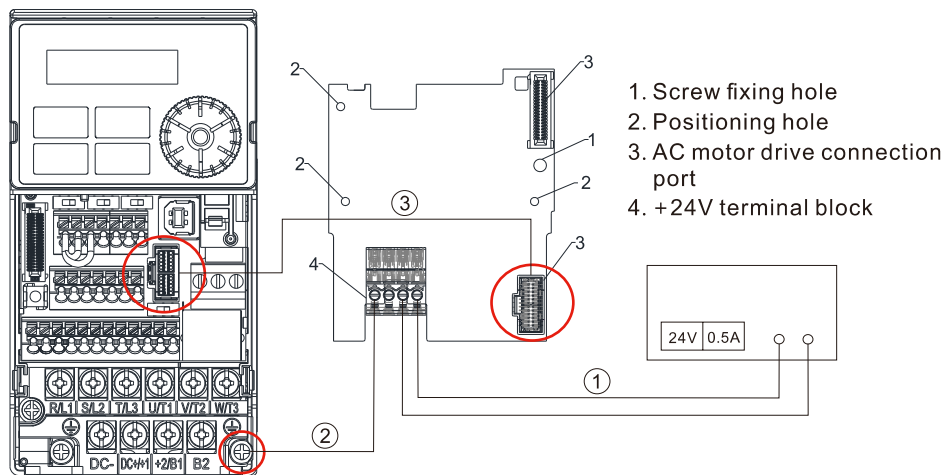

Figure 8-72
**Operating procedures** (refer to the mark ① ② ③ in the Figure 8-72)
- ① Choose the power supply or the host to connect the positive and negative electrodes to +24V power card.
- ② Connect the ground terminal of +24V power card and the ground terminal of the drive.
- ③ Connect one side of the cable to the connection port of the drive and another side to the +24V power card's.